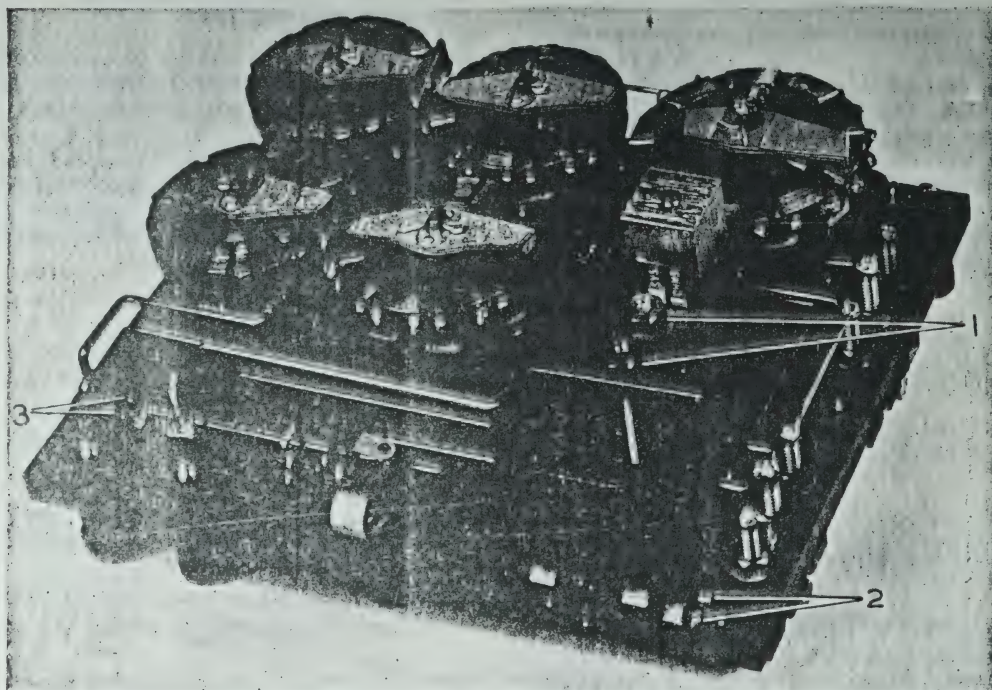

Figure 6-1. Resistance Bridge ZM-4/U, Under Side of Operating Panel from Rear Edge
f. The screws on the top plate, which includes the screws in the five dials and the galvanometer, should be kept tight. The four screws, which hold the plate in place, are shown at 5, figure 4-1, while those for the galvanometer are shown at 1 and 4, figure 4-1. The screws in the five dials are self-evident in figure 4-1. Furthermore, the nuts on the hinged section of the two knife switches should also be kept tight. In addition, the four screws 5, figure 4-1, should be removed and the top plate lifted from the instrument case in order to see that nuts 1, figure 6-1, and screws 2 and 3, figure 6-1, are tight and to inspect all soldered joints to see that they are also tight.
b. The instrument is shipped from the manufacturer with a very thin film of Vaseline on the contacts of the MULTIPLY BY dial and the four rheostat dials. These dial contacts (see figure 6-1) should be inspected every six months to see if they are dry or dirty. When necessary, wipe the contacts with a soft, clean cloth to remove any old Vaseline and dirt. Then apply a very thin film of clean Vaseline. In order to obtain this very thin film of Vaseline on the contacts, it is suggested that a soft clean cloth be rubbed lightly over the contacts, after the Vaseline has been applied.